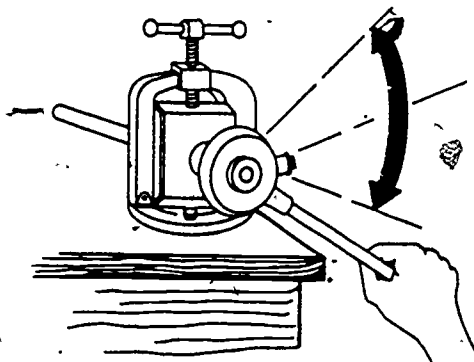

Figure 2. Turn Stock Applying Forward Pressure
4. Turn stock with one hand and apply forward pressure against stock with other hand until die begins to cut threads as shown in figure 2.